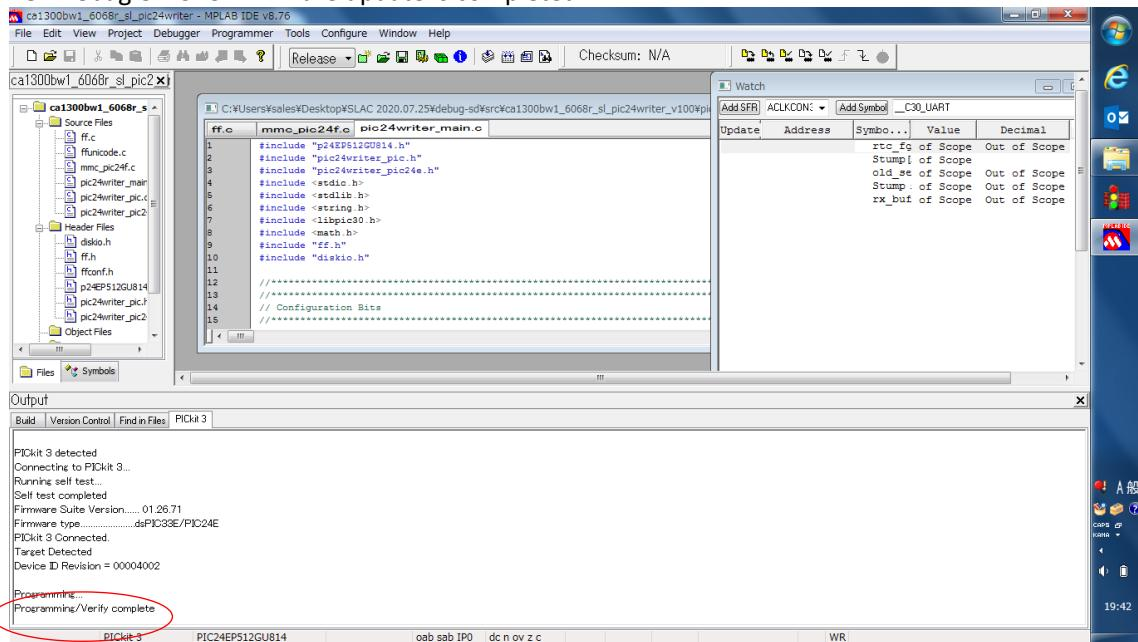

Fig. 7
- 14 If “Program” successfully executed, description on app would be as red circled area on below Fig. 7.